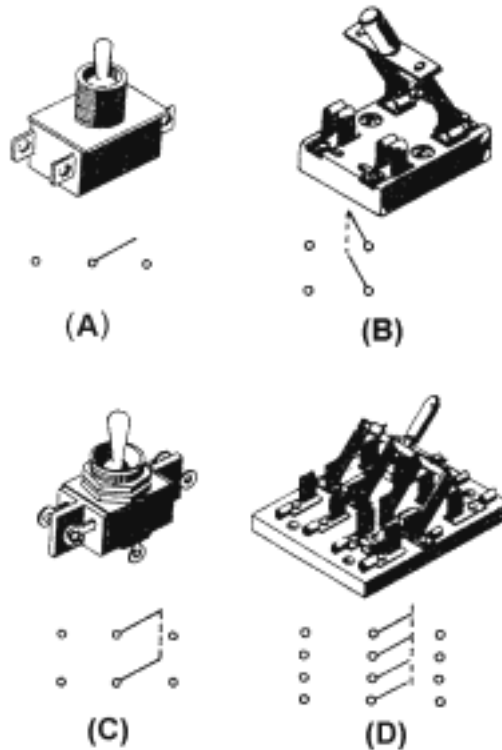

Figure 3-3.—Multicontact switches.
Figure 3-3 will help you understand this concept by showing illustrations of various multicontact switches and their schematic symbols.
Figure 3-3(A) shows a single-pole, double-throw switch. The illustration shows three terminals (connections) on this switch. The schematic symbol for the switch is also shown.